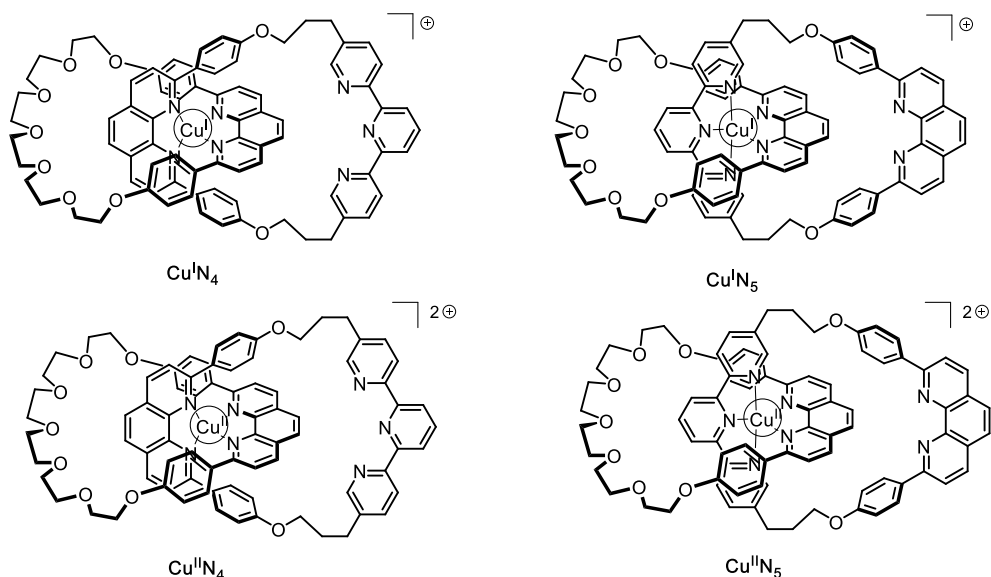

Fig. 2 – [2]catenane **L** states
11. **Fill** the solid boxes with the designation of the involved complexes as given in Fig. 2, and **fill the dashed boxes** to **complete** the sequence to achieve electrochemical control of the system by using the following notation:  (rotation of the ring);  $+\text{e}^-$ ;  $-\text{e}^-$ .